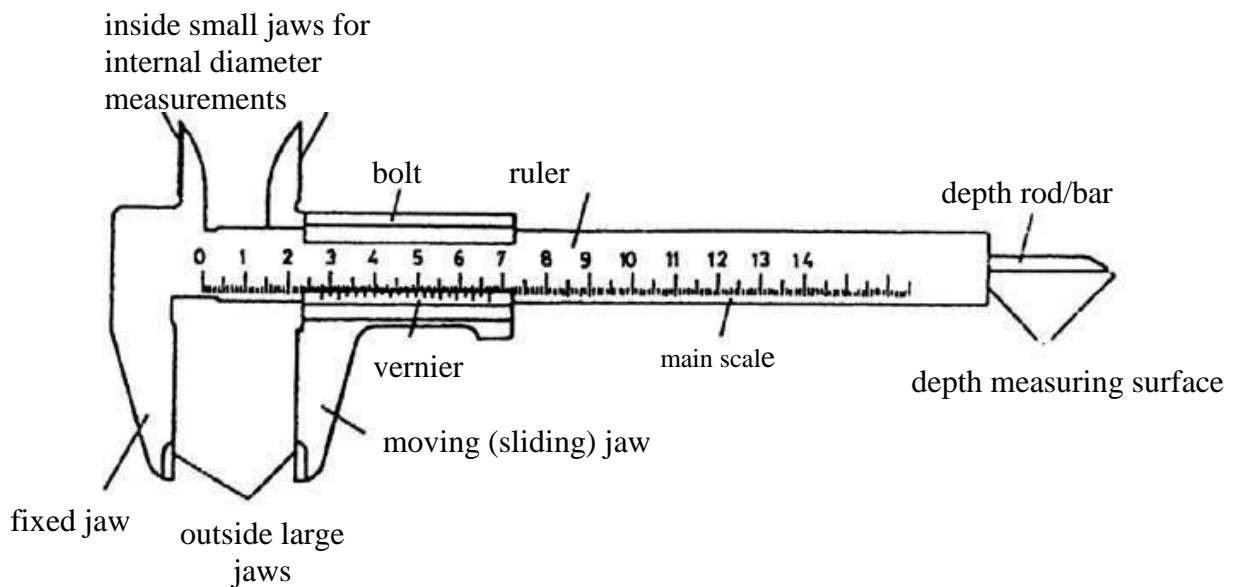

Figure 1. Vernier Caliper
**Theoretical Background:** *Vernier caliper* is the name given to a length measuring instrument that has the ability to make precise readings by using a second division section on a ruler whose length is divided in mm. The vernier caliper to be used in this experiment is shown in Figure 1. Thanks to this tool, we can measure lengths in the order of centimeters with a sensitivity between 0.1 mm and 0.025 mm, depending on the structure of the tool.